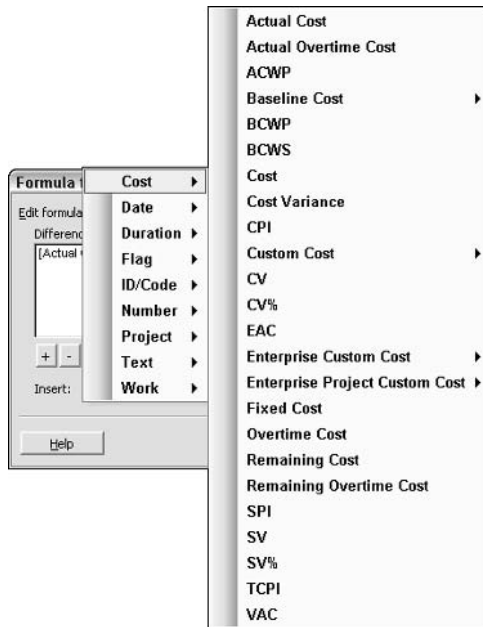

Figure 23-6: Select a field or a function to include in the formula.
5. Create a formula in the text box by selecting fields or functions. To select a field, click the Field button; Project displays a list of field categories. Select the appropriate field category, and Project displays a list of the available fields, as shown in Figure 23-6. To select a function, follow the same process by clicking the Function button.